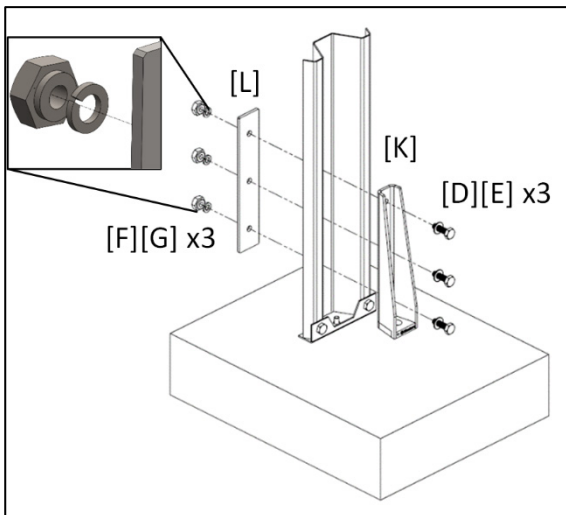

Figure 13: Attaching the leg adapter
3. Aligning leg adapter holes to bin leg holes (Figure 13)
- a. Place the leg adapter (K) against the bin leg.
- b. On the opposite side of the bin, place the rear plate (L).
- c. Attach the adapter to the bin using the bolts (D) and flat washers (E).
- d. Screw the pieces in place using the washers (F) and nuts (G).